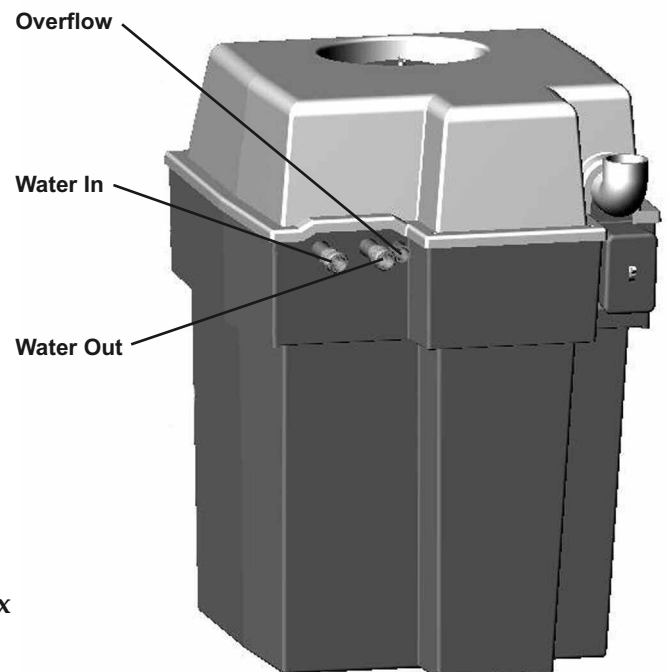
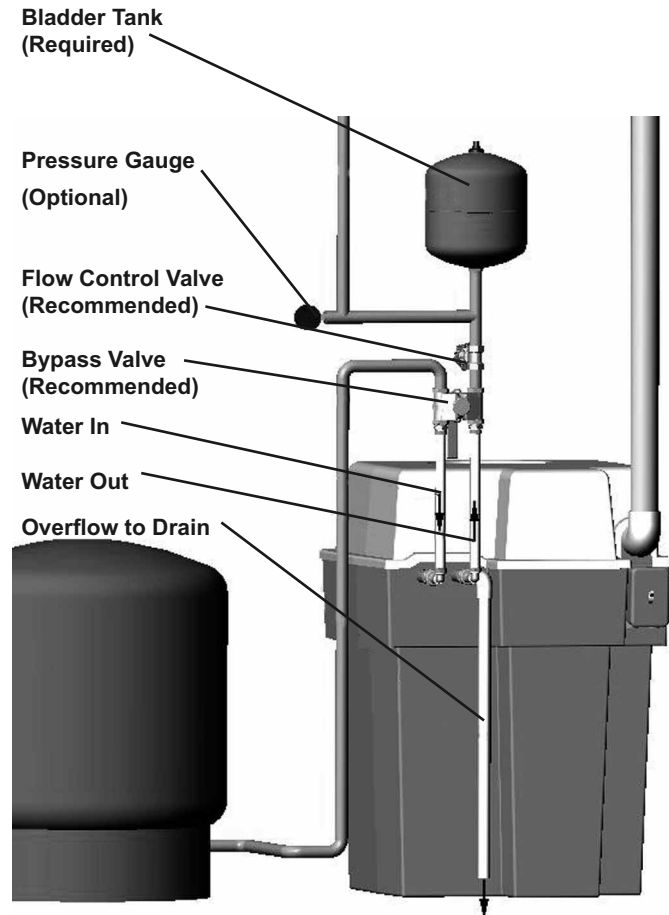

Figure 6- Rear View, Unit Only
Figure 7 – Water Connections
4. Plumb unit "Water In" connection (figure 6) to the inlet side of the bypass valve (figure 7).
5. Plumb unit "Water Out" connection (figure 6) to the outlet side of the bypass valve (figure 7).
6. Plumb water line from the existing pressure tank into the bypass valve opening labeled "Water In" (figure 7).
7. Plumb the water line to the house into the bypass valve opening labeled "Water Out" (figure 7). The built-in EZ Pump Pressure Switch with Smart Valve provided is designed for use with a pressure tank. The pressure tank bladder pressure should be set per the tank manufacturer's recommendations for a pressure switch setting of 40 psi.